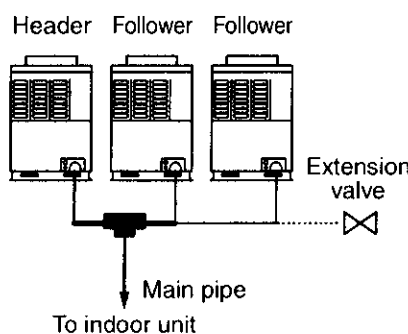

Figure 2
- 2) However, as shown in the figure below, T-shape branching joint which is sold separately can be connected to connect to the main pie within piping indicated with a bold line in the following figure. (Figure 2)